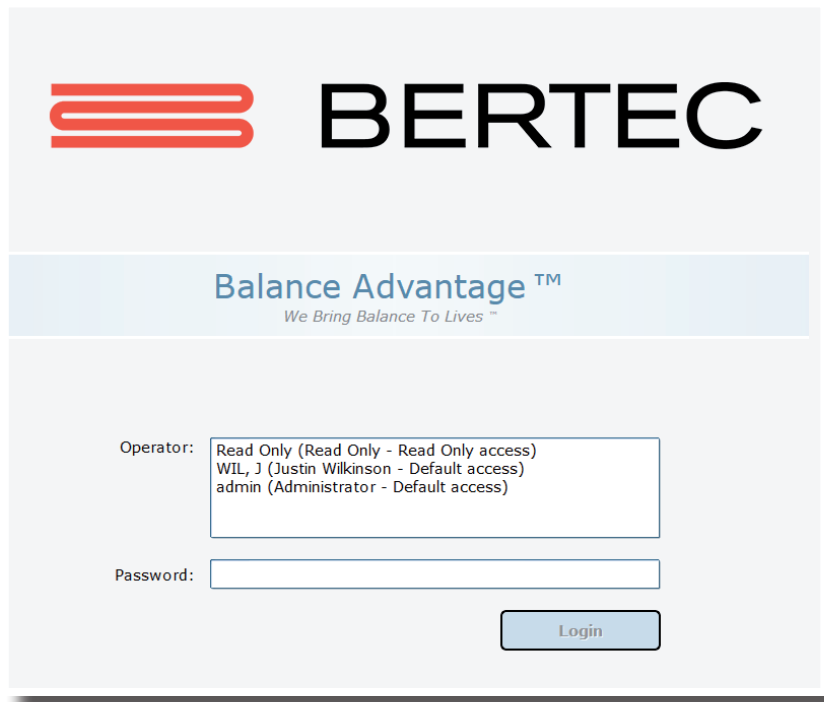

Figure 8: Software Login Screen
1. Open Bertec® Balance Advantage®. Arrive at the login screen, shown in Figure 8.